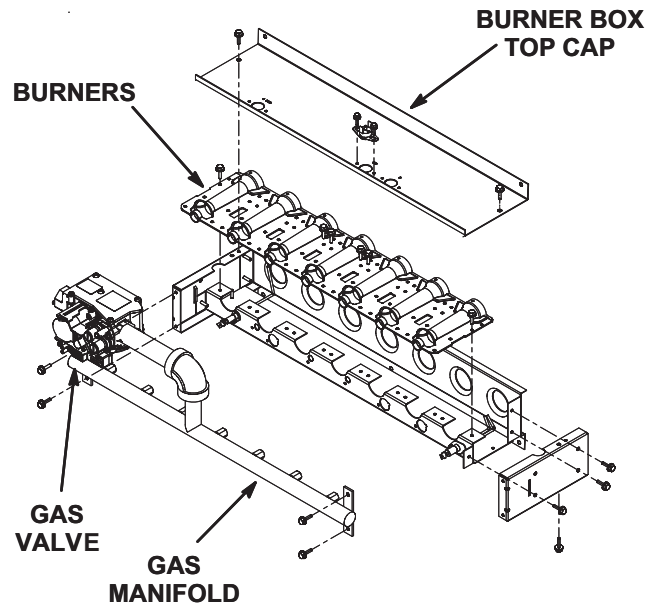
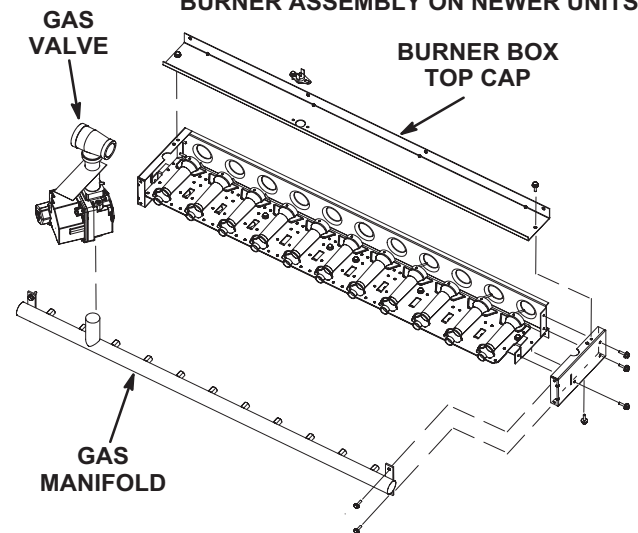

FIGURE 6
FIGURE 7
- 3 - Remove and retain screws securing burner box top cap. See Figure 6 and Figure 7.
- 4 - Remove and retain two screws securing burners to burner support and lift the individual burners or the entire burner assembly from the orifices. See Figure 6 or Figure 7. Clean as necessary.